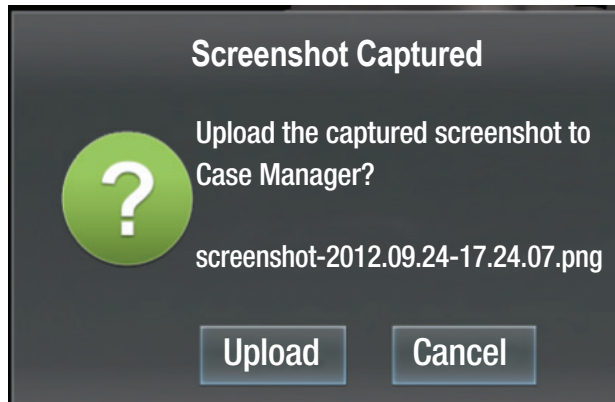

Figure 12. Screenshot Captured
- Press the **Screen Capture** button to capture a screenshot. (Figure 11, H). The message in Figure 12 will appear.